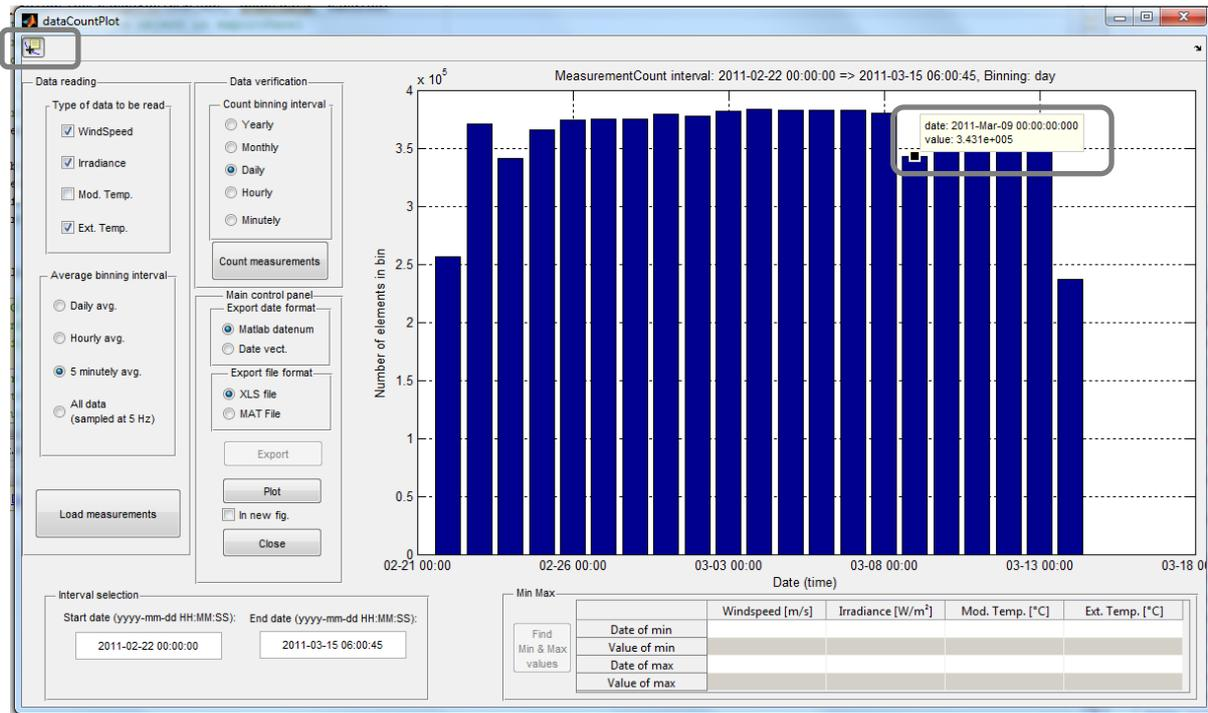

Figure 2 Cursor placement
- In the upper left corner, a cursor button is available (Figure 2, encircled with grey). After enabling it, the user can click on the plot points to view their exact values.